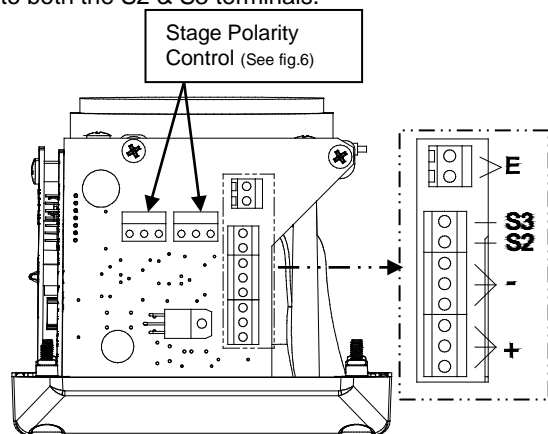

Fig. 8 DC Terminals
- Fit an M20x1.5 suitably rated, certified cable gland or conduit entry into the hole in the enclosure and connect the field wiring to the appropriate alarm horn terminals as shown in section 9 and fig 8 (DC) or section 8 fig 5 (AC) of this manual. The power supply terminals are duplicated so that alarm horns may be connected in parallel and for DC units only an end of line monitoring resistor may be fitted. If the second M20x1.5 entry is not used a suitably rated, certified stopping plug must always be fitted.
Stage one (S1) operation: Simply connect the supply voltage to the + and - supply terminals, (see fig. 8).
Internal earthing connections should be made to the internal earth terminal on the PCBA, (please see fig 8 for DC, fig 5 for AC). The earth conductor should be at least equal in size and rating to the incoming power conductors. The internal earth bonding wire connects the PCBA earth terminal to the internal earth terminal in the enclosure back box.